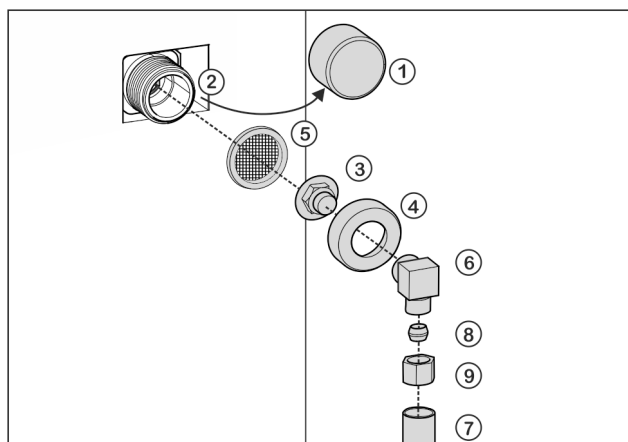

Fig. 51
- Remove cap Fig. 51 (1) from solenoid valve Fig. 51 (2).
- Insert coupler Fig. 51 (3) into union nut Fig. 51 (4).
- Insert the filter *Fig. 51 (5)* with the recess pointing down towards the coupler *Fig. 51 (3)*.
- Screw the union nut *Fig. 51 (4)* by hand onto the thread of the solenoid valve *Fig. 51 (2)* until it is firmly in place.
- Screw on angle piece *Fig. 51 (6)*.
- Connect the water pipe *Fig. 51 (7)* (e. g. 1/4" OD copper pipe) with the clamp ring *Fig. 51 (8)* and nut *Fig. 51 (9)* to the elbow connector *Fig. 51 (6)*.
- If necessary: Fasten the water pipe *Fig. 51 (7)* to the housing with the guide clip.
- Put angle piece *Fig. 51 (6)* to one side.
- Connect the water pipe *Fig. 51 (7)* (e. g. 1/4" OD copper pipe) with the clamp ring *Fig. 51 (8)* and nut *Fig. 51 (9)* to the coupler *Fig. 51 (3)*.